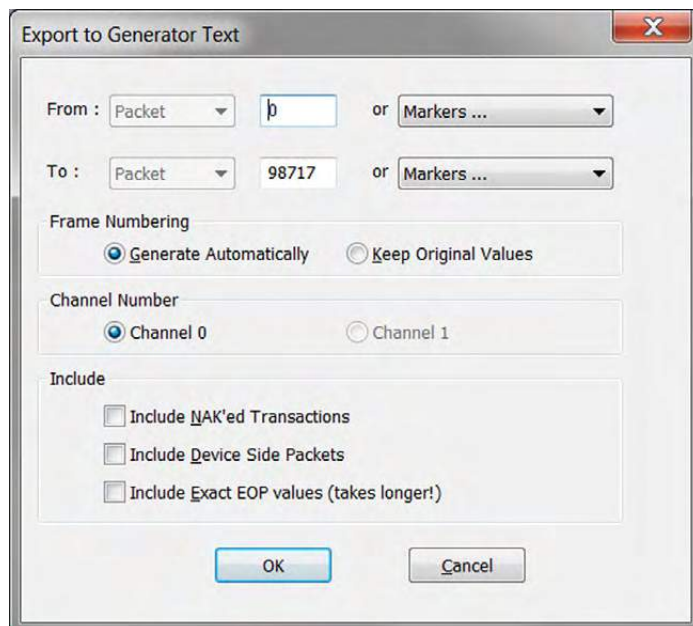

Figure 11.11: Export to Generator Text Window
4. Select **Packets to Host Traffic Generator Text File** from the **Export** drop-down menu. You see the **Export to Generator Text** dialog (Figure 11.11 on page 493).